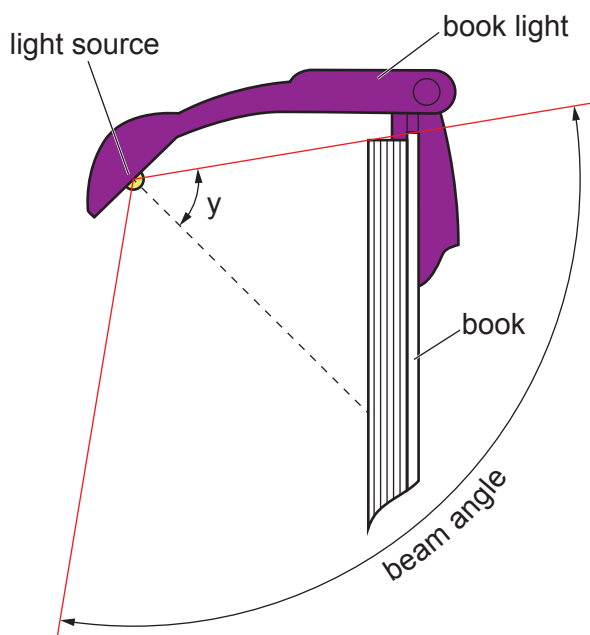
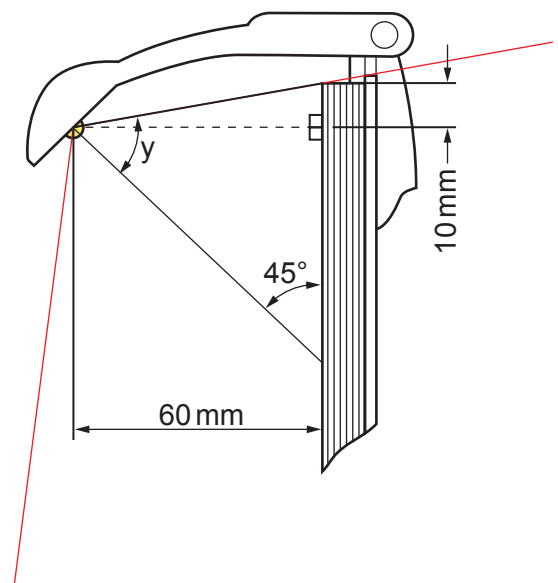

Fig. 2.2
Fig. 2.3
Fig. 2.2 shows a diagram of the book light clipped into place on a book and the location of the light source in relation to the book.
Fig. 2.3 shows a diagram used to calculate the minimum beam angle.
The light source has a beam angle as shown in **Fig. 2.2**. The larger the beam angle the larger the area that is lit. The designer of the book light needs to calculate the minimum beam angle so that it lights the whole page. This is done by calculating angle y shown in **Fig. 2.3**.
- (a) Using the information given in **Fig. 2.3**, calculate angle y to 1 decimal place. Show your working.